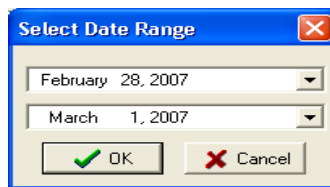

Figure 5-13: Date Sorting Selection Dialog Box
- *Custom* - Selecting Custom will bring up the dialog box shown in Figure 5-13.